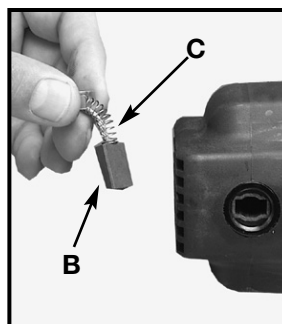
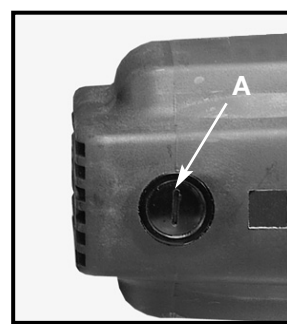

Fig. 45
Fig. 44
The brush holders (A) Fig. 44, are located on the motor housing opposite each other. Fig. 45, illustrates one of the brushes removed for inspection. When the carbon on either brush (B) is worn to 3/16" in length, or if either spring or shunt wire (C) is burned or damaged in any way, replace both brushes. If the brushes are found serviceable after removing, reinstall them in the same position.